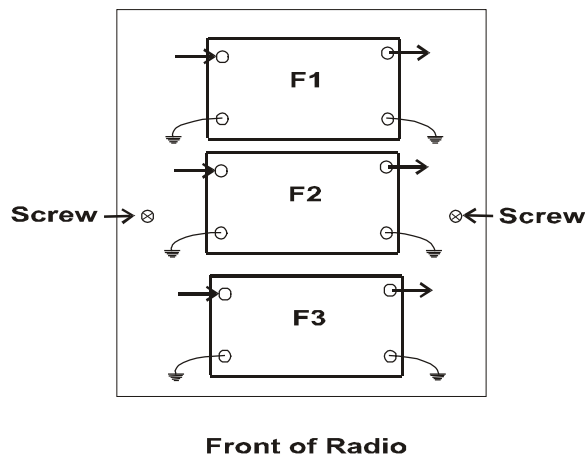

Figure 2.10-2 Filter Location Showing Ground orientation
8. Locate the F1, F2, F3 slot to insert the specific filter into. Refer to Figure 2.10-2. This is according to the Filter Cover, and not the circuit board text. The order is shown on the Filter Cover as F1, F2, F3 going from back of the rig towards the front of the rig. The ground pins are easily distinguished by the way the pins and outer case connect together. The ground pins will be inserted into the holes for that filter closer to the front of the rig. The text on the top of the filter will then read properly from the rear of the radio. If your filter comes with the vibration barrier attached to the bottom just temporarily remove this cover to verify polarity direction to identify the ground location and re-install vibration barrier.